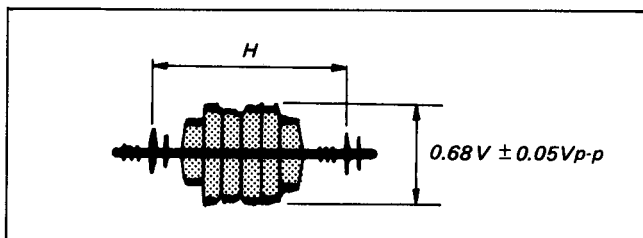

Fig. 5-26. ACC adjustment
- i) Adjust to $0.68V \pm 0.05V_{p-p}$ with RV001. (See Fig. 5-26.)